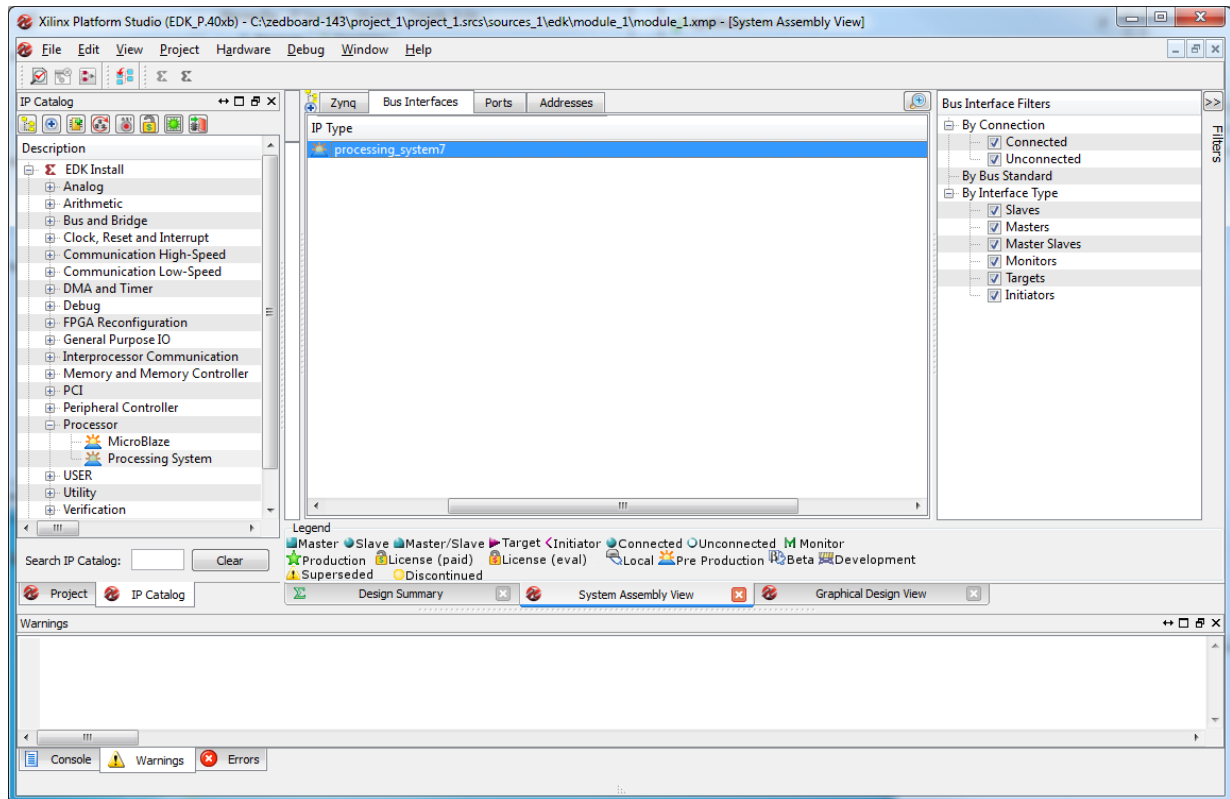

Figure 2-7: Processing System 7 in the Bus Interface tab
4. Power on the board using the switch indicated in Figure 2-7: ZedBoard Power switch and Jumper settings.